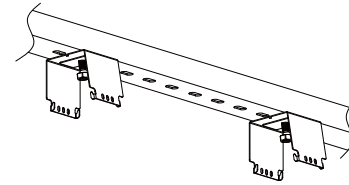

Figure5
- Step1. Mount the bracket on the rail or ceiling (Figure 5);